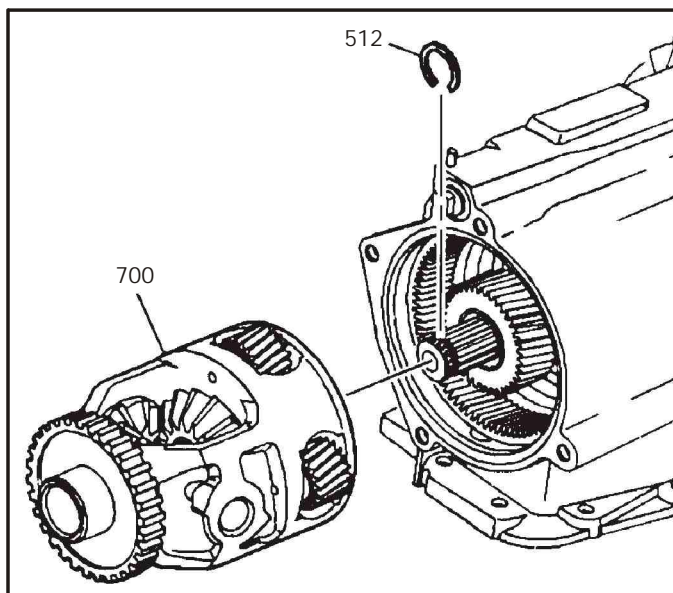

Figure 55
6. Remove the final drive assembly, and remove the output shaft compression ring using snap ring pliers (See Figure 55).